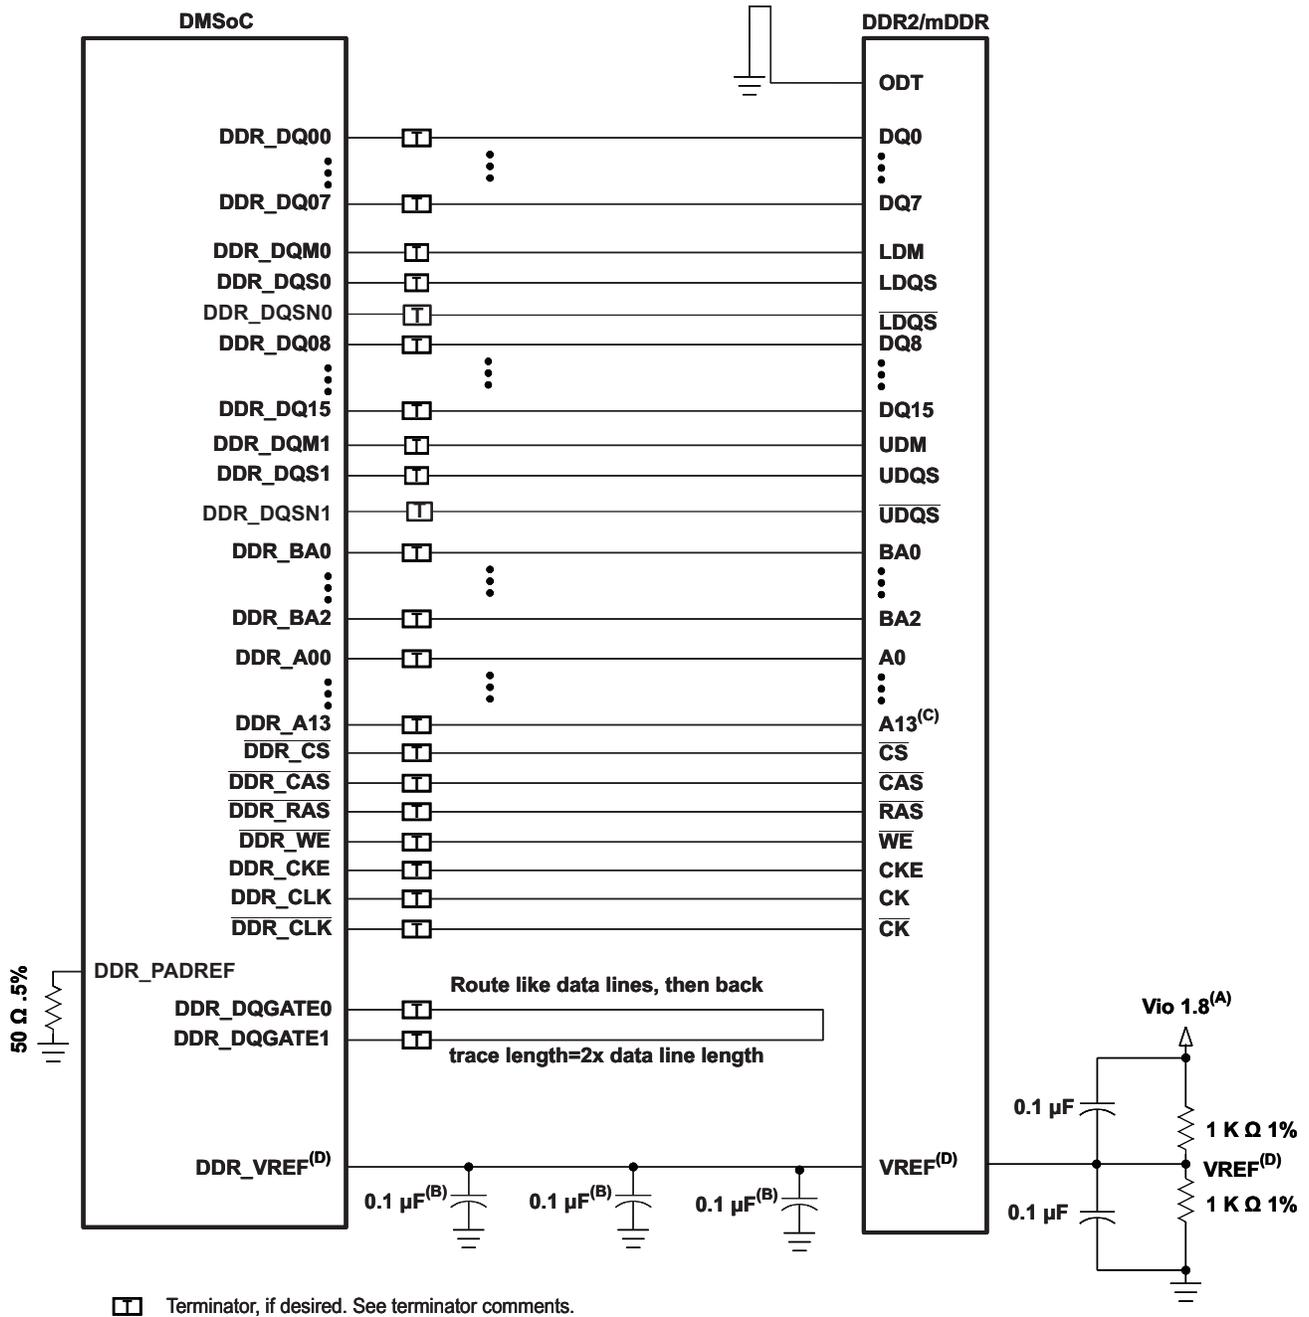
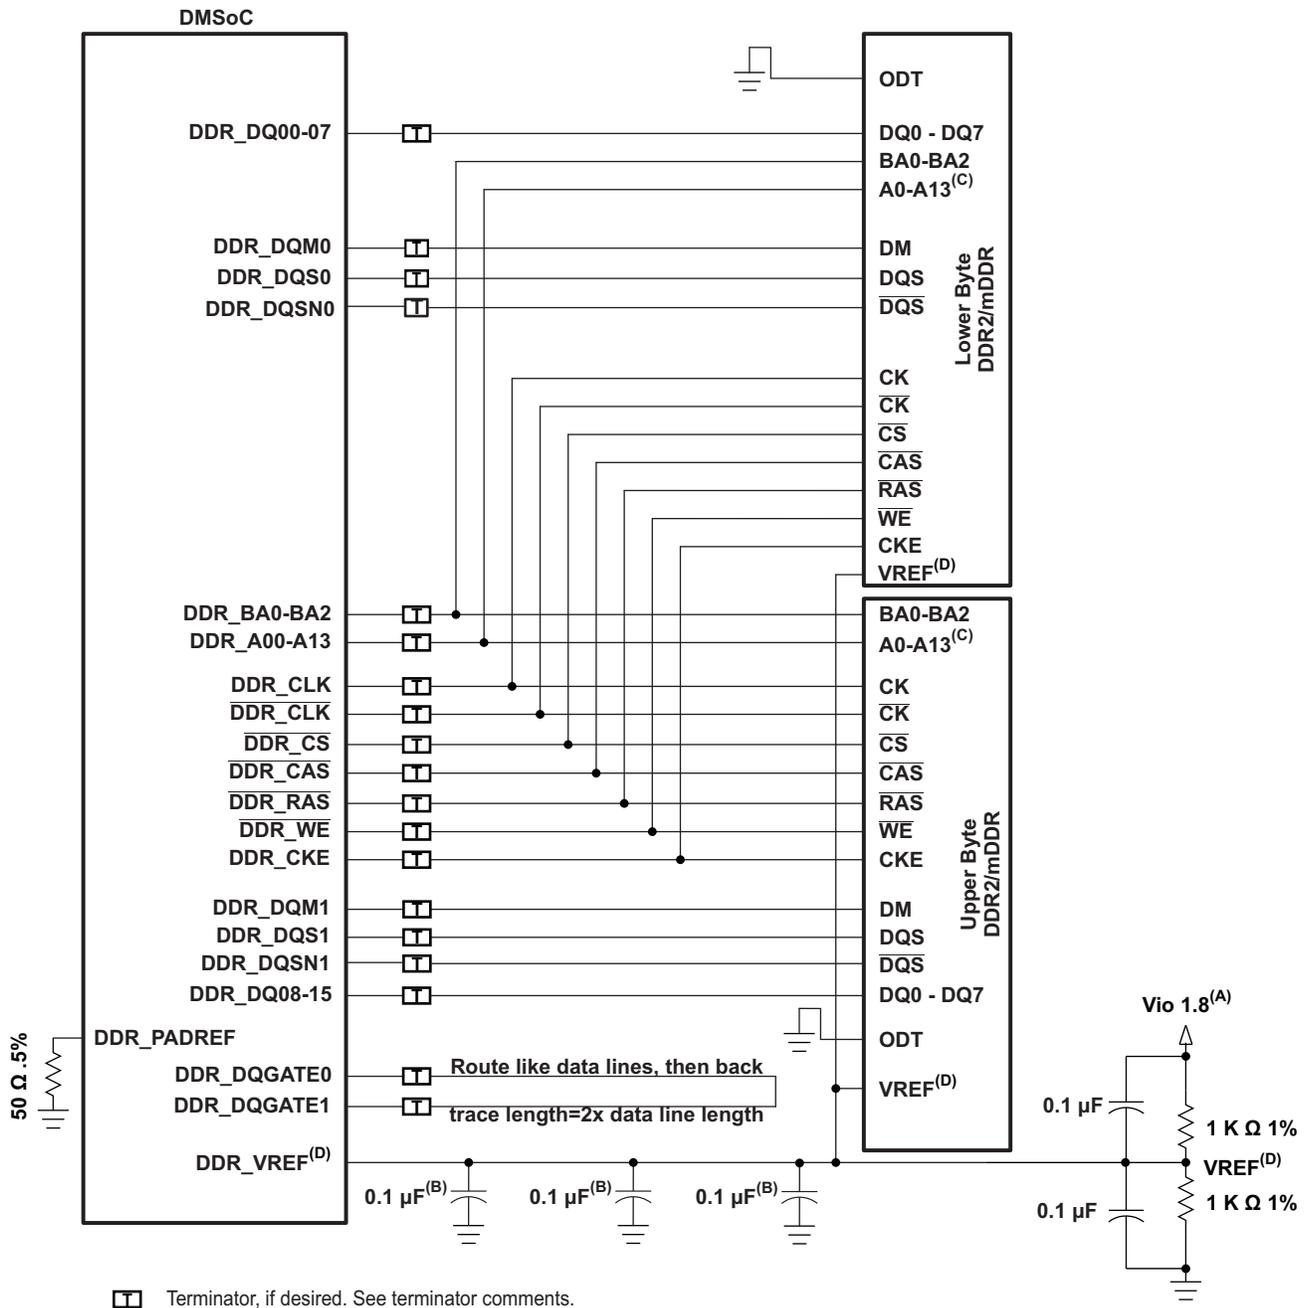
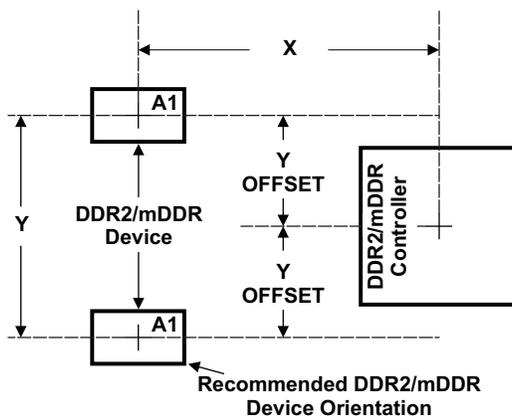

Figure 6-19. DM365 DDR2/mDDR Single-Memory High Level Schematic
Figure 6-20. DM365 DDR2/mDDR Dual-Memory High Level Schematic
Figure 6-21. DM365 and DDR2/mDDR Device Placement
Figure 6-19 shows the DDR2/mDDR interface schematic for a single-memory DDR2/mDDR system. The dual-memory system shown in Figure 6-20. Pin numbers for the DM365 can be obtained from the pin description section.
Figure 6-20 shows the required placement for the DM365 device as well as the DDR2/mDDR devices. The dimensions for Figure 6-21 are defined in Table 6-26. The placement does not restrict the side of the PCB that the devices are mounted on. The ultimate purpose of the placement is to limit the maximum trace lengths and allow for proper routing space. For single-memory DDR2/mDDR systems, the second DDR2/mDDR device is omitted from the placement.
- (1) See Figure 6-19 for dimension definitions.
- (2) Measurements from center of DMSoC device to center of DDR2/mDDR device.
- (3) For single memory systems it is recommended that Y Offset be as small as possible.
- (4) DDR2/mDDR Keepout region to encompass entire DDR2/mDDR routing area
- (5) Non-DDR2/mDDR signals allowed within DDR2/mDDR keepout region provided they are separated from DDR2/mDDR routing layers by a ground plane.